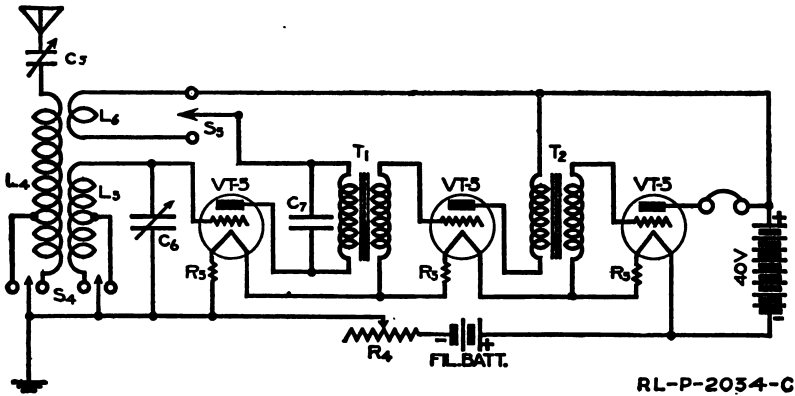

Fig. 88.—Wiring diagram of receiver connections in the SCR-130 set.
The receiver of the SCR-130 is of the inductively coupled type. In addition to the primary and secondary receiving coils a third coil is provided in the plate circuit of the detector for the reception of continuous wave signals. This third coil is the *tickler coil*. When it is desired to receive spark signals the tickler coil is cut out of the circuit by means of a switch marked "Spk.-Het." located on the panel of the set box. The abbreviation "Het." stands for "Heterodyne," meaning that the circuit is adjusted for continuous wave reception. (See Fig. 88.)
The primary circuit is tuned by adjusting the variable condenser, which is in series with the primary coil, and by adjusting the amount of inductance in the primary coil. The primary coil has one tap, which is connected to a switch on the panel of the set box. (See S4, Fig. 88.) When the switch is thrown to "SW" (short wave) only part of the coil is in use, and when thrown to "LW" (long wave) the entire coil is in use. The secondary circuit is tuned by adjusting the variable condenser, connected across the secondary coil. In a later model of this set box the secondary coil also has one tap, which is connected to the same switch provided for the primary coil. (See S4, Fig. 88.) This is so arranged that when the switch is in the position "S. W" only parts of each of the primary and secondary coils are in use. When it is in the "LW" position the entire circuits of the primary and secondary coils are in use.
3. Observe the various receiver parts mounted back of the set box panel. As far as possible trace the wiring of the receiver, using the wiring diagram shown in Fig. 88.